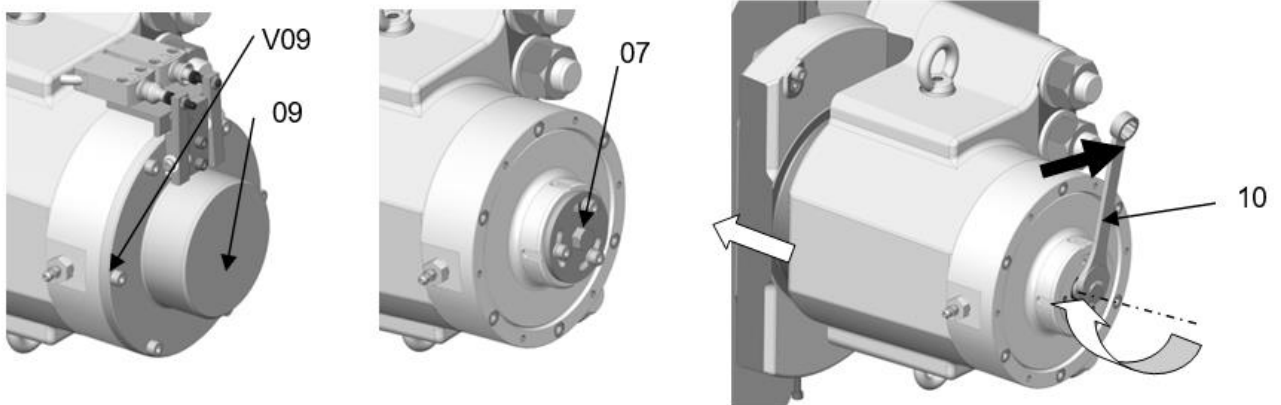

Fig. 5.2
3. Remove lid **09** using its 6 screws **V09** with a 5 A/F 6-sided wrench Fig. 5.2.
4. Remove the locking washer **07** Fig. 5.2 with an M6 6mm hexagonal wrench.
6. Turn axis **10** with a 15 A/F wrench clockwise to move the jaw up to the clearance indicated on the datasheet free gap Fig. 5.2.